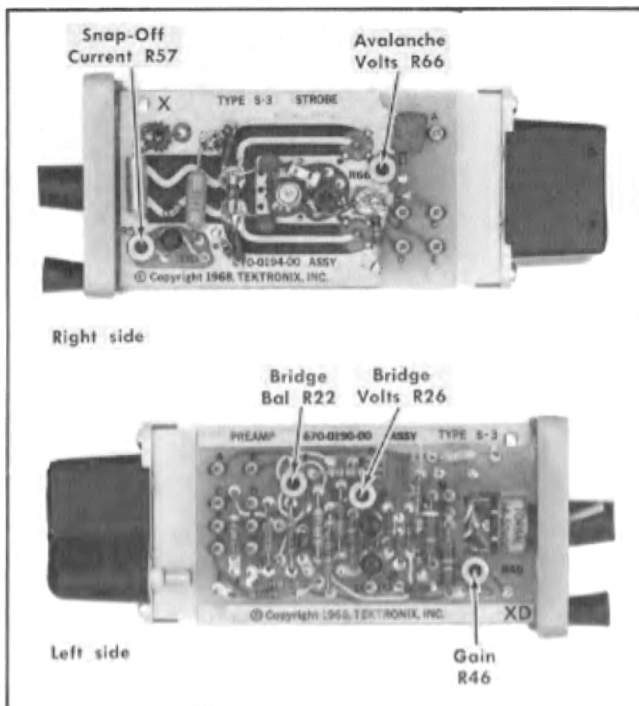

Fig. 5-8. Sampling head internal controls.
- b. Remove the sampling head cover. The head must be on an extender cable for access to all controls. Make the connections shown in Fig. 5-5A. Set the controls as in Step 4. Preset the sampling head internal controls (see Fig. 5-8):